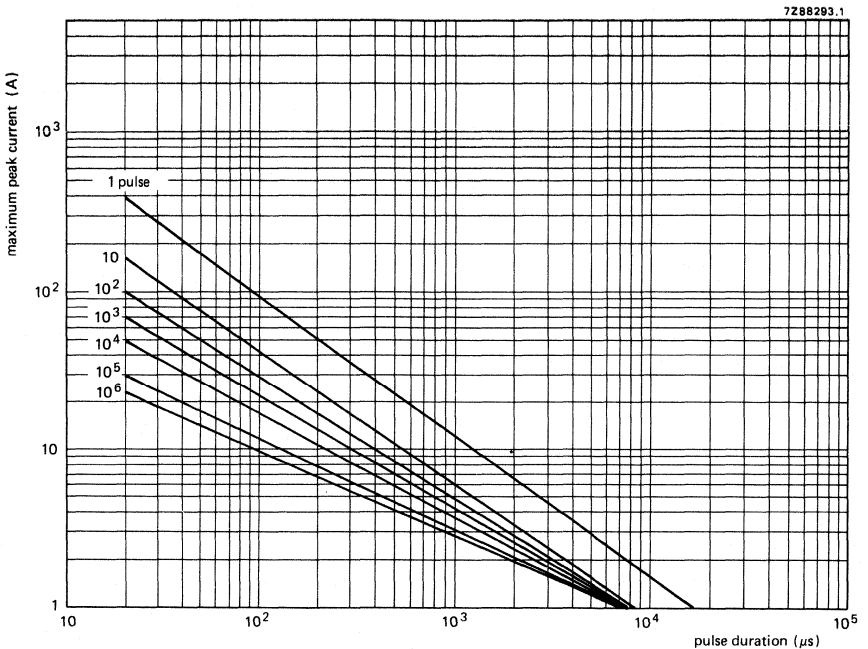

Fig. 3 Max. applicable transient current as a function of pulse duration.
- A current impulse of 8/20 μs (defined in IEC 60-2 section 6) is used as a standard for impulse current and clamping voltage ratings. The transient energy is given for one impulse applied during the life of the component. Figure 3 gives the derating for different numbers and longer duration of impulses. The shift of the varistor voltage does not exceed $\pm 5\%$.